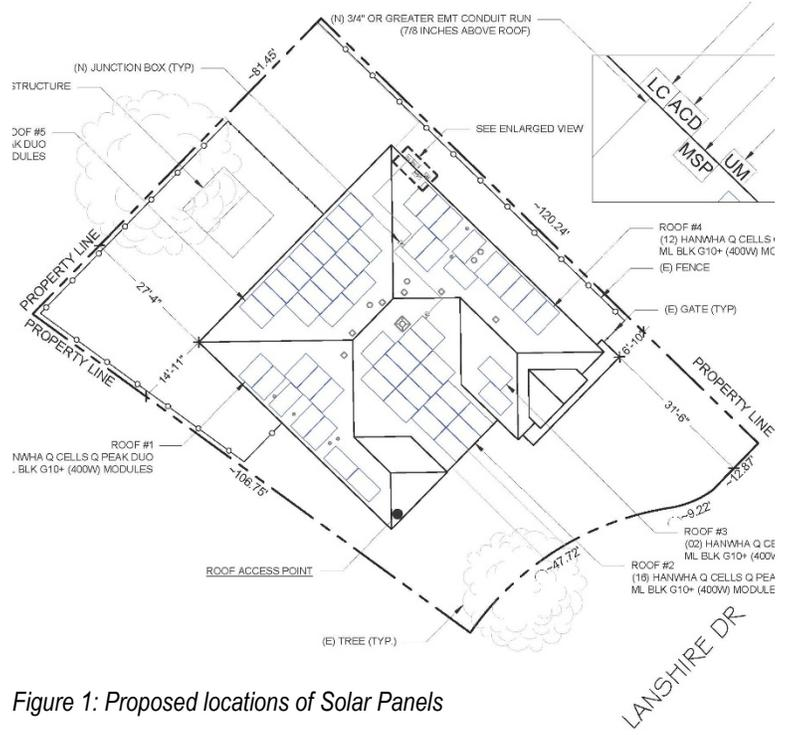

Figure 1: Proposed locations of Solar Panels
The applicant's request appears to be in conformance with the majority of the City's requirements regarding *Solar Energy Collector Panels and Systems* however, the Unified Development Code (UDC) does not provide many regulations regarding this land use other than roof square footage. Staff is of the opinion that the original intent for these regulations was to limit visibility of the solar panels from public rights-of-way and adjacent properties. For the purpose of comparing the proposed solar panels for the subject to the solar panels constructed on existing single-family housing located adjacent to or in the vicinity of the *subject property*, staff has provided photos and an analysis of properties on Brookshore, Burkwood, Haven Ridge, Mapleridge, Rutherford, Pendleton, and Sycamore Drives below. Through the process of analyzing the adjacent properties, staff found that a majority of the solar panels surface area is less than 1,000 SF with the exception of one (1) property, which approved in 2018 with 1,025 SF of coverage at 140 Brookshore Drive. Staff also observed that the majority of the solar panels on these properties were installed on the side or rear of the roofs with the exception of three (3) homes which utilized the front part of the roof. In this case, the applicant is proposing 18 solar panels in the front part of the house, which may be visible from Lanshire Drive as shown in *Figure 1*. With all this being said the approval of a Specific Use Permit (SUP) and the operational conditions contained in the Specific Use Permit (SUP) ordinance are a discretionary decision for the City Council pending a recommendation from the Planning and Zoning Commission.
In this case, the applicant is proposing 18 solar panels in the front part of the house, which may be visible from Lanshire Drive as shown in *Figure 1*. With all this being said the approval of a Specific Use Permit (SUP) and the operational conditions contained in the Specific Use Permit (SUP) ordinance are a discretionary decision for the City Council pending a recommendation from the Planning and Zoning Commission.